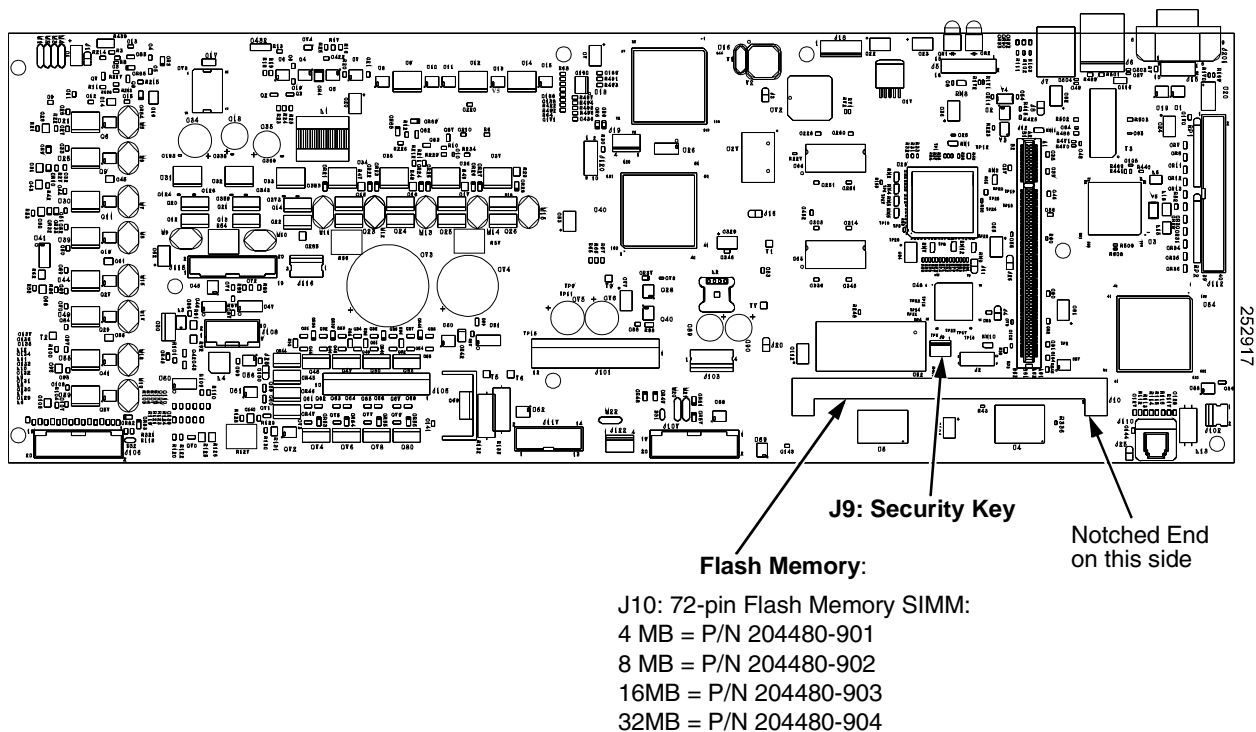

Figure 36. Memory Modules and Security Key
5. Gently lift the locking tab on the top side of controller board connector J9 enough to release the key, then lift and remove the security key. (See Figure 36, page 324.)
2. Position the security key on controller board connector J9 so that the lock indentation is on the same side as the locking tab on connector J9. Gently press the security key down onto the pins until the locking tab engages the lock indentation and locks the key in place. (See Figure 36.)